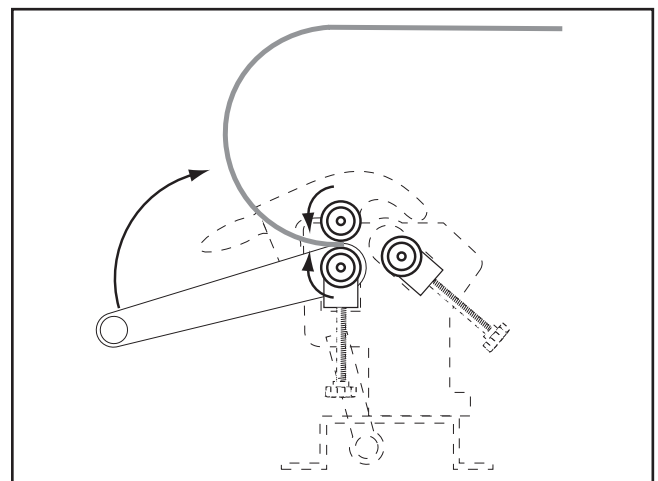

Figure 24. Re-inserting the workpiece.
5. Rotate the workpiece 180°, insert the curved end into the slip roll, then process the workpiece through the machine, as shown in **Figures 24 and 25**.